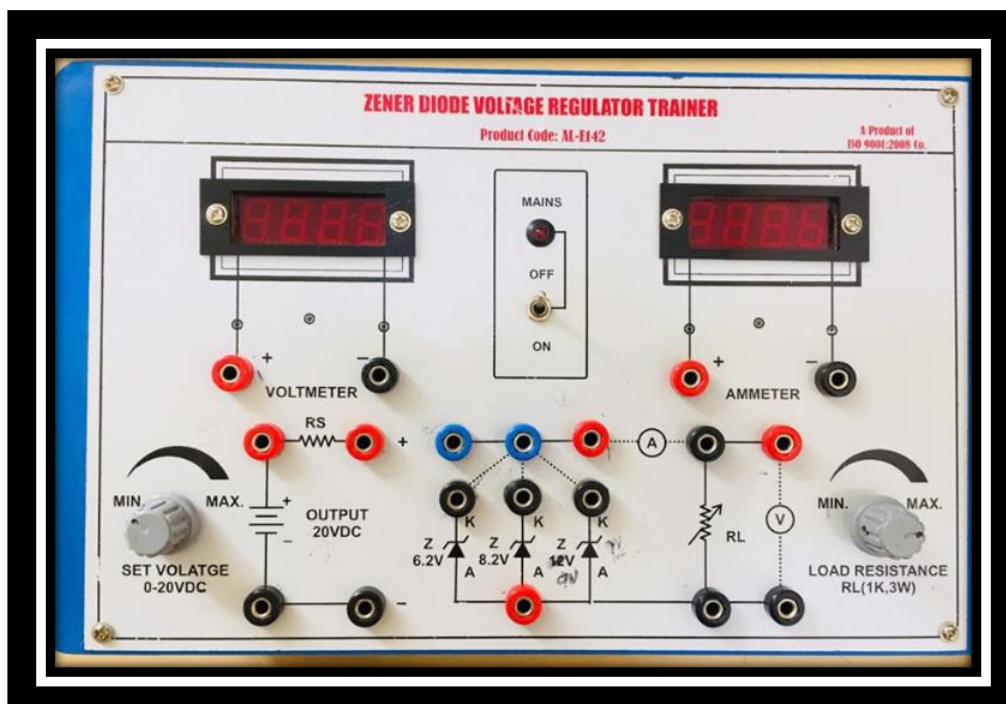

Figure 3.2: Trainer Board for Zener Diode as a Voltage Regulator
1. On the trainer board, as shown in Figure 3.2, the solid lines signify the connections already made; whereas dotted lines are used to indicate the connections which can be made using connecting leads. There is a provision to select one zener diode from three options with different breakdown voltages (V_Z).